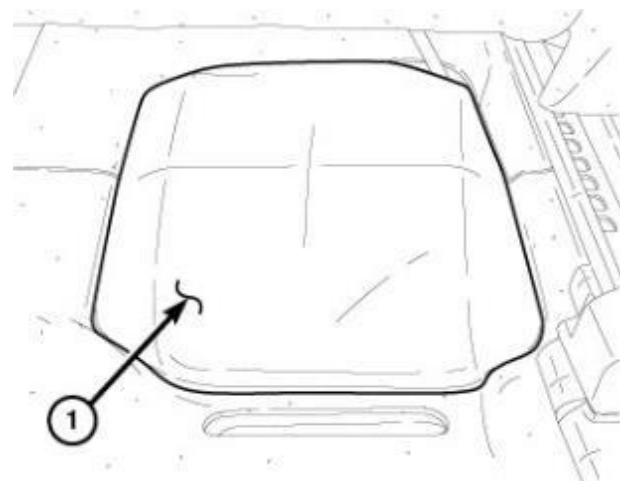

Figure 1 – Battery Cover
3. Remove the battery cover (1) (Figure 1).